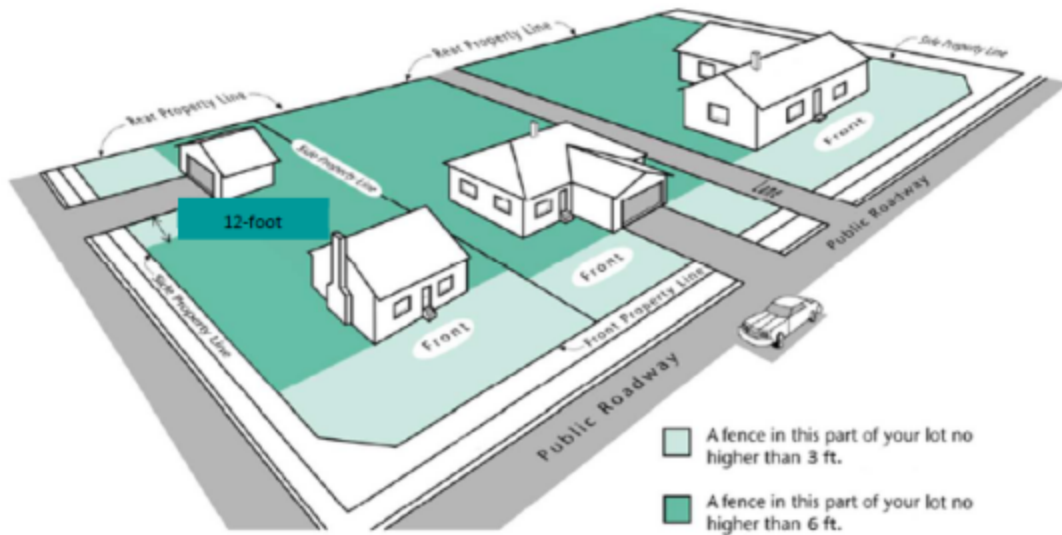

Figure 1.1
- (B) ~~If excavated or filled, the native elevation~~ A pre-manufactured rectangular fence panel of up to ten (10) feet in length or less may be installed horizontally to vertical posts such that one end of the panel is at grade level, and the other end is no more than two-tenths (0.2) of a foot above grade level for each linear foot of fence panel.
- (2) No fence need be less than 48 inches in height.
- (3) The Planning Commission may approve a fence, wall or similar structure not to exceed 10 feet in a rear area or side yard in the A-M, R-M, R-H, C-M, C-H, C-VH, I-H, I-VH, PF-L, PF-M, PF-H, or PF-VH zones as part of a site plan review, or amended site plan, with the findings by the Planning Commission that is to be a benefit to the surrounding properties and/or help to buffer the use, and is in the City’s best interest.
- (4) The Zoning Administrator may approve a fence, wall, or similar structure not to exceed a height of eight feet, as a buffering element, where a differing zone district boundary is present. Such fence shall be subject to the following:
- (A) A “permitted use” application shall be submitted to the City for any fence higher than six feet.
- (B) The increased height placement shall be limited to placement or location along a zone district boundary between two differing zones, when and where there is a difference in zone intensity and the higher intensity zone is missing the buffering element of CZC 12.51.070 or between any A-L and R-L Zone boundary.
- (C) In no case shall the increased height be placed, located, or extended into any front yard or street side yard setback requirement of any zone.
- (D) Where utility easements are present, the “permitted use” request shall comply with CZC 12.55.100 Easements.
- (E) All fencing above six feet in height shall comply with any or all applicable building code regulations and/or shall meet the adopted applicable wind loading regulations.
- (5) South side of Porter Lane, from 400 West to Main Street. For all legally approved rear yard fronting lots along the creek channel, the fence height shall not exceed eight feet in height along the rear yard lot line.
- (6) Street Side Yard, Corner Lots. For residential zones, fencing up to 6 feet in height may be allowed within the street side yard portion of a corner lot, as measured from an interior lot line of the lot to a line intersecting at the Front Yard Setback line of the lot along the other street. Exception, fences shall not exceed 4 feet in height for a minimum distance of at least 12 feet, when a driveway on an adjacent lot is locate within 12 feet of the interior lot line of the corner lot (see Figure 1.1 for a visual reference).